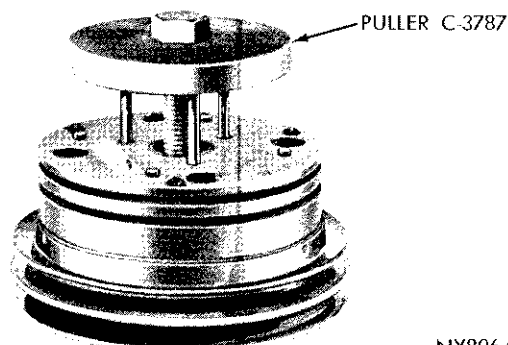
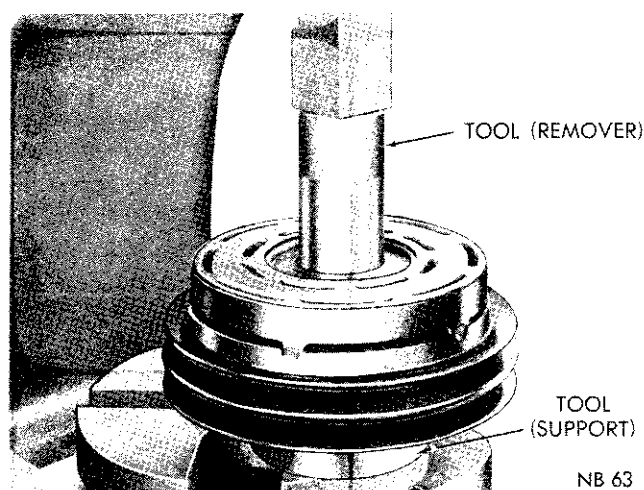

Fig. 2—Removing the Hub and Shoe Assembly
Fig. 3—Removing the Bearing from Pulley Assembly
(1) Remove the small snap ring from the drive hub.
(2) Install drive hub puller Tool C-3787 aligning the three pins of the Tool in the three holes in the hub and shoe assembly. Tighten the hex head bolt down until the drive hub is removed from the bearing (Fig. 2).
(3) Remove bearing snap ring from pulley.
(4) Place pulley assembly on an arbor press, with pulley side down, and bearing hub centered on Tool C-3825. Install Tool SP-3496 on inner race of bearing and press the bearing from pulley assembly (Fig. 3).